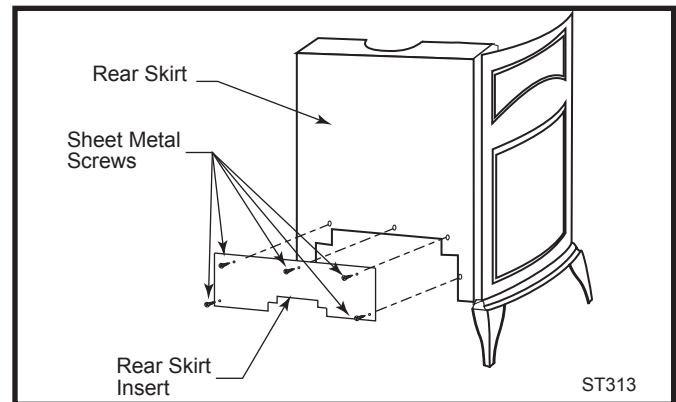
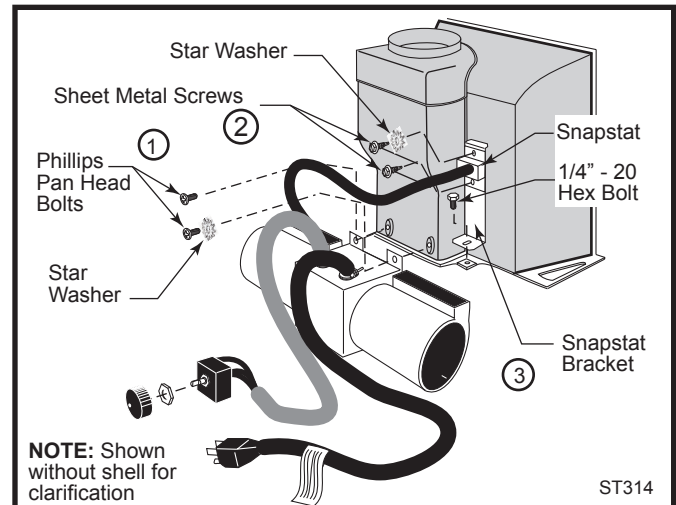

Fig. 15 Remove rear skirt insert.
Fig. 16 Attach the fan assembly and the snapstat.
2. Remove the rear skirt insert panel at the bottom of the Rear Skirt (Fig. 15) and fasten the blower assembly to the firebox back with the two Phillips pan-head bolts originally installed in the firebox back. ('1', Fig. 16)
3. Attach the snapstat assembly to the snapstat bracket with two sheet-metal screws. ('2', Fig. 16) Attach the snapstat bracket to the stove with a hex-head bolt passing through the bracket and into the stove base. ('3', Fig. 16)